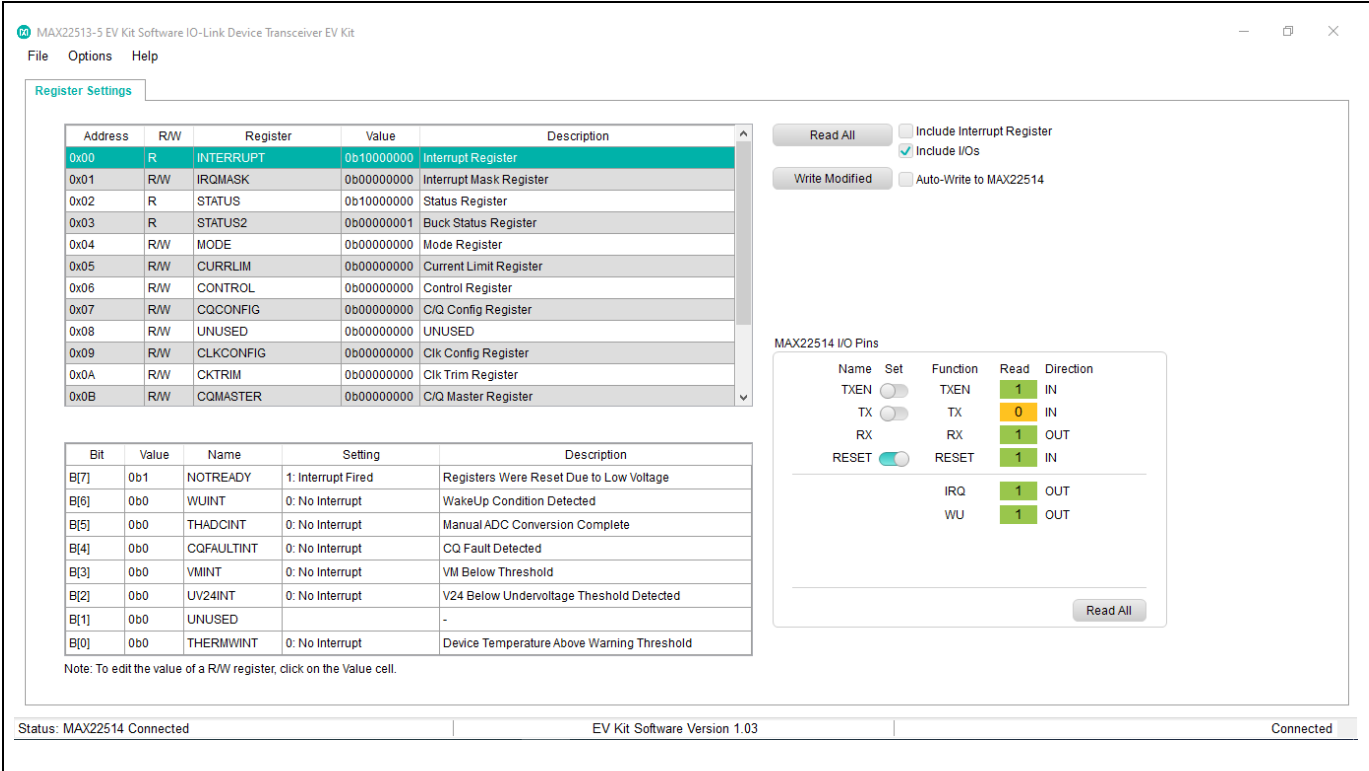

Figure 1. MAX22514 EV Kit Software, EV Kit is Connected
9. Start the EV kit software by opening its icon in the **Windows Start | Programs | Maxim Integrated** menu. The EV kit software main window appears, as shown in Figure 1.
10. Verify that Status: MAX22514 Connected is displayed on the status bar at the bottom left of the main window (Figure 1).